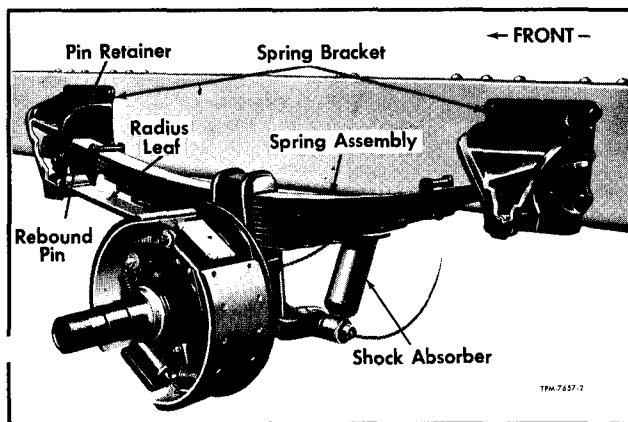

Figure 2—Radius Leaf Type Rear Suspension
6. Remove C-clamp from radius leaf, lower vehicle, and install rebound pin at front and rear hangers. On all steel tilt models install rebound pins with lock groove flush with surface of brackets, install locks, and secure with lock bolt. Bend tab of lock over flat of retaining bolt. On other models, drive rebound pin in flush with bracket surface, then hook retainer over edge of brackets and install bolt and lock washer to secure each retainer (fig. 2).